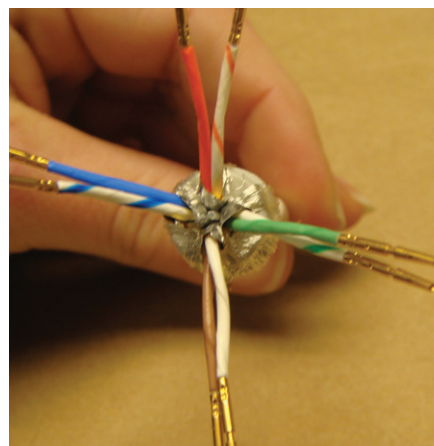

Figure 29: Spreading out the wires
18. Spread out the pairs around the cable to ensure the insert will sit inside the group of wires (Figure 29).